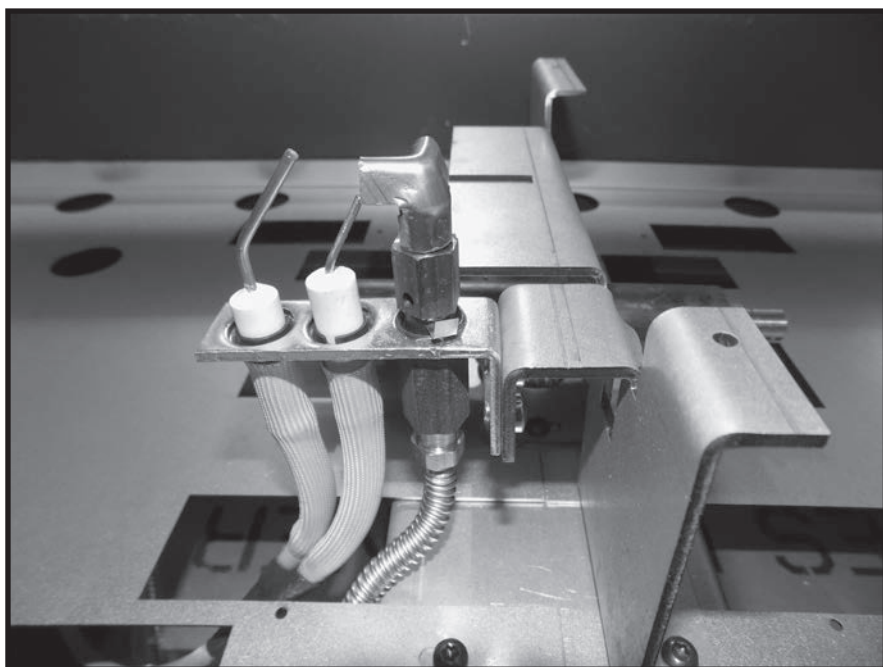

Figure 7: Securing pilot assembly to center leg.
6. Secure the pilot assembly to the center leg as shown in Figure 7. Use two Robertson screws supplied with kit.